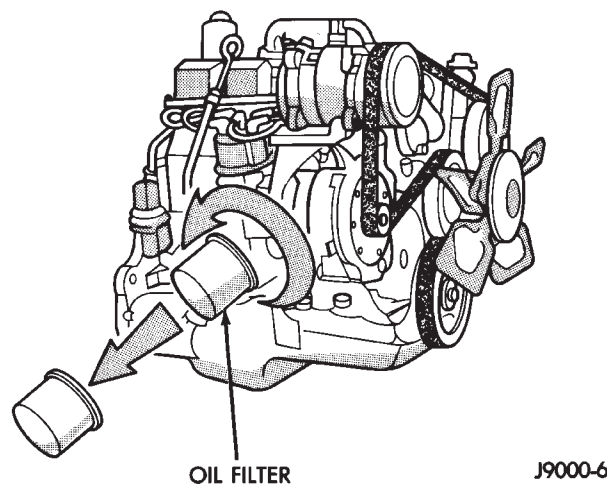
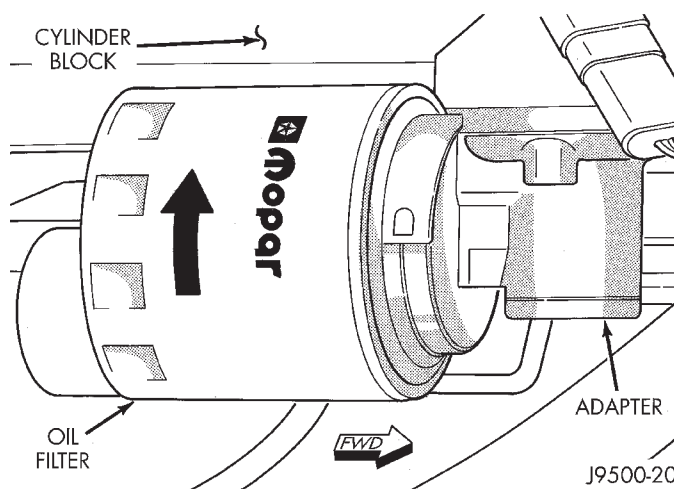

Fig. 8 Oil Filter—2.5L Engine
Fig. 9 Oil Filter—4.0L Engine
- (1) Position a drain pan under the oil filter.
- (2) Using a suitable oil filter wrench loosen filter.
- (3) Rotate the oil filter counterclockwise to remove it from the cylinder block oil filter boss or filter adapter housing (Fig. 8) (Fig. 9).